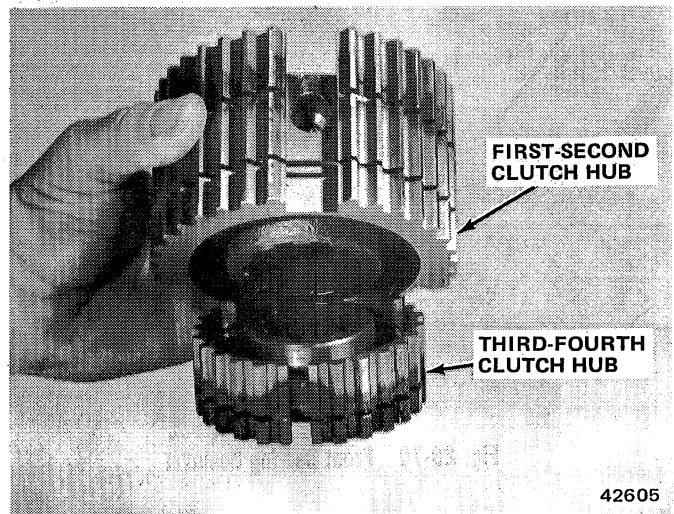

Fig. 2B-71 Supporting First-Second Clutch Hub
- (1) Place third-fourth clutch hub on workbench.
- (2) Install insert spring in first-second clutch hub spring groove.
- (3) Position first-second clutch hub on top of third-fourth hub so lock ball holes in first-second hub are in uppermost position (fig. 2B-71).
(4) Align scribe marks on first-second hub and sleeve and install sleeve on hub (fig. 2B-72). Allow sleeve to bottom against workbench.
(5) Install each shifting plate, poppet spring and lock ball assembly one at a time as follows (fig. 2B-72):